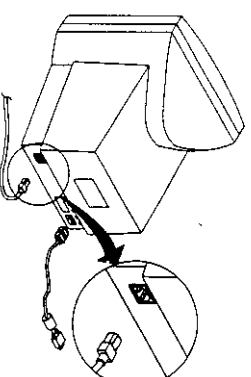

Figure 3: Connecting the Power Cord
- Locate the AC port on the rear of the monitor (refer to Figure 3).